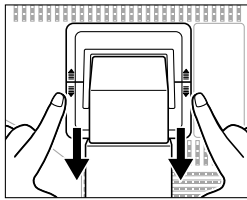

Figure S.2
4. Press the " ▼ " portion with your index finger and at the same time slide the lower stand cover. (Figure S.2)